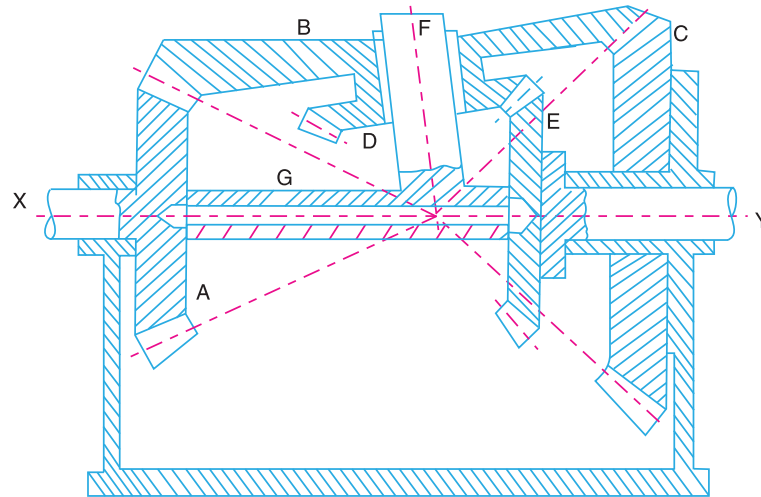

Fig. 13.20. Humpage's speed reduction gear.
1. Humpage's speed reduction gear. The Humpage's speed reduction gear was originally designed as a substitute for back gearing of a lathe, but its use is now considerably extended to all kinds of workshop machines and also in electrical machinery. In Humpage's speed reduction gear, as shown in Fig. 13.20, the driving shaft X and the driven shaft Y are co-axial. The driving shaft carries a bevel gear A and driven shaft carries a bevel gear E . The bevel gear B meshes with gear A (also known as pinion) and a fixed gear C . The gear E meshes with gear D which is compound with gear B .